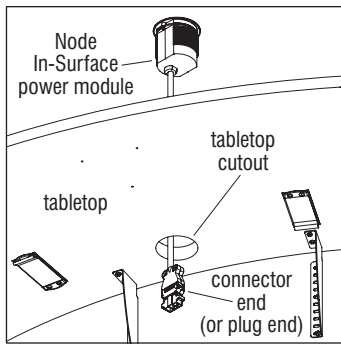

**Figure 4**
2. With the assembled table in the upright position, orient the Nacre in-surface pop-up power module as shown and route the connector end (or plug end) down through the tabletop cutout. Press the module down firmly into the cutout to secure in place, making sure the two clips on each side of the module catch under the cutout bottom edge of the tabletop (Figure 4 & Detail I).